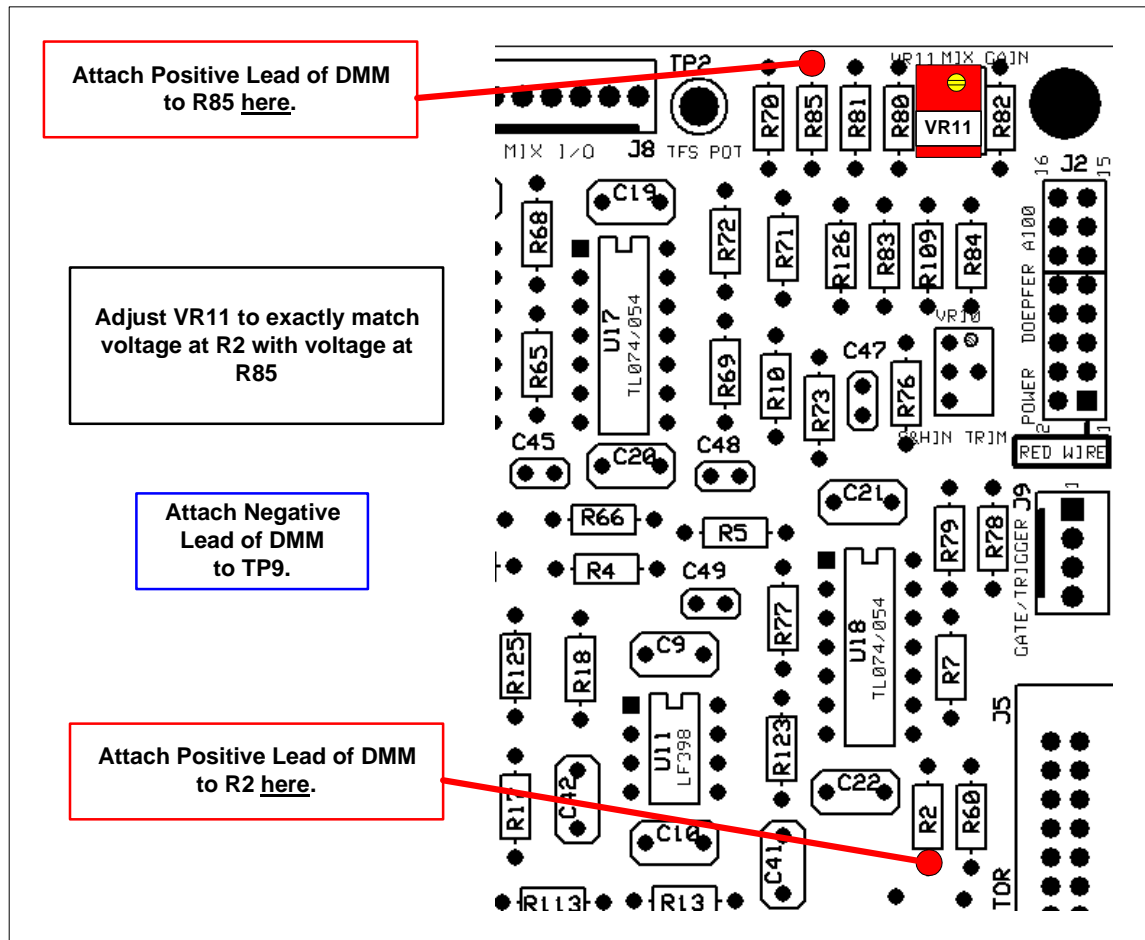

Figure 9-18: Mix Input Unity Gain Calibration
2. Connect the positive lead of the DMM to end of R2 depicted in **Figure 9-18**. Set the DMM to the very lowest range, and measure the voltage present at R2. Adjust the front panel Coarse Offset control (VR105) and Fine Offset control (VR107) for exactly 0V as measured on the DMM. If your DMM is very sensitive, and it's difficult to get exactly 0V (say it's reading a few millivolts or so, record what you do measure here: _____)
5. Connect the positive lead of the DMM to end of R85 depicted in **Figure 9-18**. Measure the voltage present at R85. Record that voltage here: _____
7. Connect the positive lead of the DMM to end of R2 depicted in **Figure 9-18**.